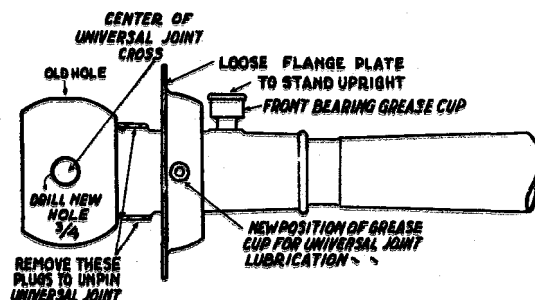
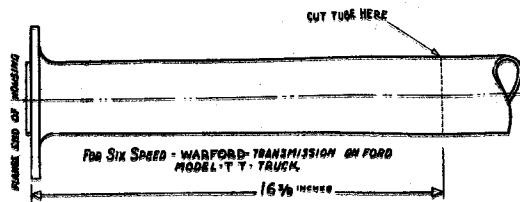

Fig. 1
Fig. 2
4. On the rear axle unit, take out the universal joint housing pin plugs, drive pin out and remove universal joint. Next, drill a $\frac{3}{4}$ inch hole on the left side of the housing ball on approximately the same line as the old hole in the top. See Fig. 1 on reverse page. Use a $\frac{1}{4}$ inch drill to start this hole and then enlarge to $\frac{3}{4}$ inch. **BE SURE TO REMOVE ALL DRILL CUTTINGS AND CHIPS.**
Take out the universal joint housing pin plugs. See Fig. 1. Drive out pin and remove the universal joint. Next remove the propeller shaft housing flange cap screws, disconnect and remove the housing from the rear axle. Be sure to remove the paper gasket and the felt washer and its retainer from the housing flange and assemble them on the new flange coupling furnished with the Warford transmission.
3. Cut $16\frac{1}{8}$ inches from the rear end of the propeller shaft housing tube, measuring from the machined face of the flange as shown in Fig. 2. Make the cut as square as possible. Drill a $\frac{1}{4}$ inch hole in the LEFT side of the housing ball on the same line as the old hole in the top. SEE FIG. 1. Use a $\frac{1}{4}$ " drill to start this hole and then enlarge to $\frac{3}{4}$. **BE SURE TO REMOVE ALL DRILL CUTTINGS AND CHIPS.** Fit the Warford flange coupling on to the sawed-off end of the tube. Housing tubes vary in diameter so if the tube proves small it must be brought up to a fit with metal shims, and if large it must be dressed off with a file. If the installation is being made on a used truck, inspect the babbit drive shaft bushing (Ford Part No. 1076) in the front end of the drive shaft housing. If this bushing shows wear, replace it with a new one, because looseness will cause propeller shaft whip. Be sure and drill the grease hole through the new bushing for the small compression grease cup.
4. Assemble the propeller shaft tube over the propeller shaft, replace the universal joint, pin permanently and replace the housing pin plugs. See Fig. 1. Then bolt the new flange hard against the axle, and wire the bolt heads securely, leaving the tube clamping screws slightly loose.
10. Next, assemble the rear axle unit under the chassis, using cork gasket (Ford Part No. 2580) at the ball cap. Turn the ball cap so that the large grease cup on it stands to the LEFT. See Fig. 1. Use the two special Warford cap screws in the top holes, draw up hard and pass the wire through the holes in their heads. Use the special Warford bolts, lock washers and nuts in the bottom holes and tighten securely. Next, replace spring shackles using new cotter pins in the castellated nuts. Replace brake rods and guides and carefully adjust emergency brakes being sure that the brake rods do not bind in the guides when brakes are applied and released.